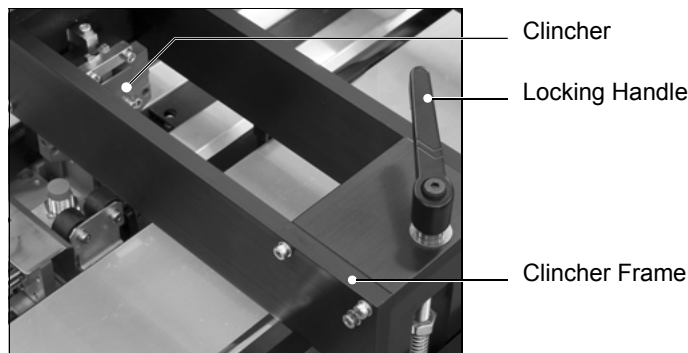

FIGURE 13. Clincher Frame Components
**CAUTION:** Check that the folder cover will not hit the clincher frame locking-handle when you close the folder cover. If necessary, lift and rotate the clincher frame locking-handle to a new position (See Figure 13).